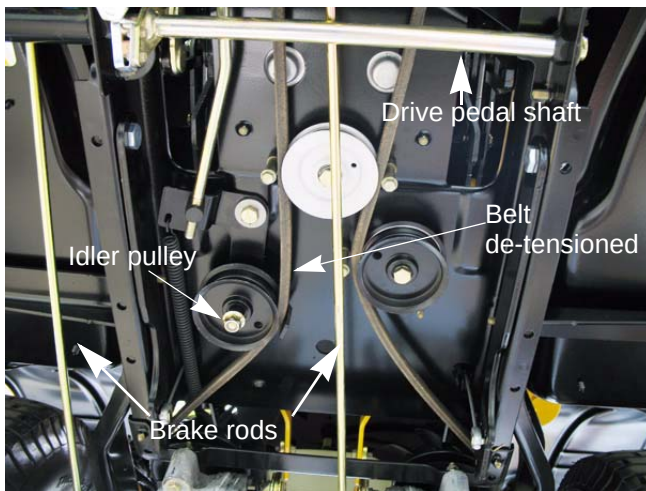

Figure 3.1
- The brake shaft assembly also has a link that is connected to the drive belt idler pulley bracket. When the brakes are applied, the idler pulley is pulled away from the drive belt. This de-tensions the belt and allows it to slip. See Figure 3.1.